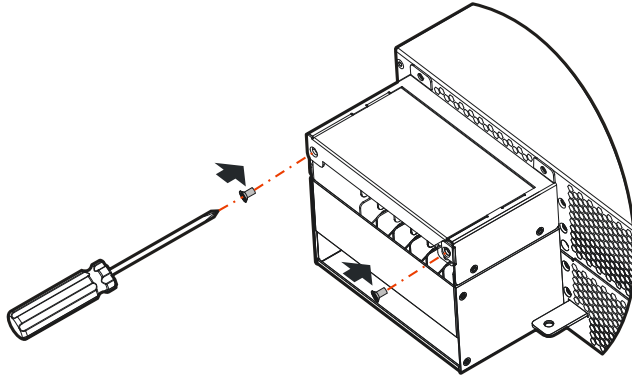

Figure3-28 Fix with the flat head screws
Step 5 Fix with the flat head screws,as shown in Figure3-28.